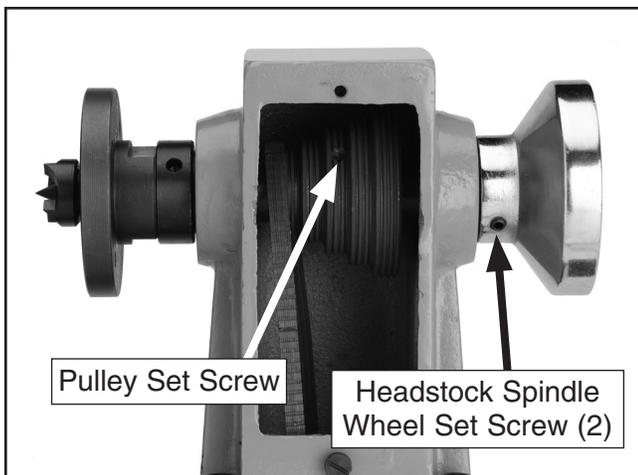

Figure 37. Set screw locations.
3. Loosen both set screws on the headstock spindle wheel (**Figure 37**) and turn it clockwise to unthread and remove it.
4. Loosen the set screw on the spindle pulley through the rear cover access until the pulley spins freely on the spindle (refer to **Figure 37** for set screw locations).